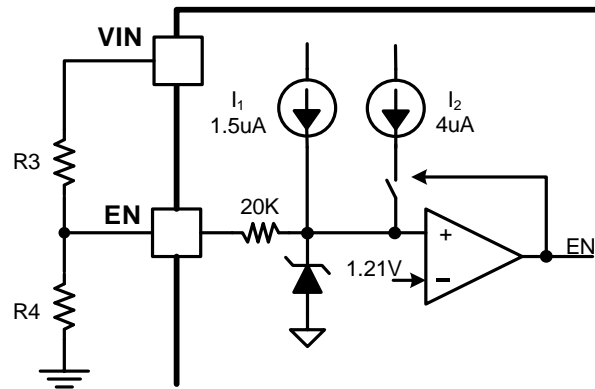

Figure 9. Adjustable VIN UVLO
An internal 1.5uA pull up current source connected from internal LDO power rail to EN pin guarantees that floating EN pin automatically enables the device. For the application requiring higher VIN UVLO voltage than the default setup, there is a 4uA hysteresis pull up current source on EN pin which configures the VIN UVLO voltage with an off-chip resistor divider R3 and R4, shown in Figure 9. The resistor divider R3 and R4 are calculated by equation (1) and (2).